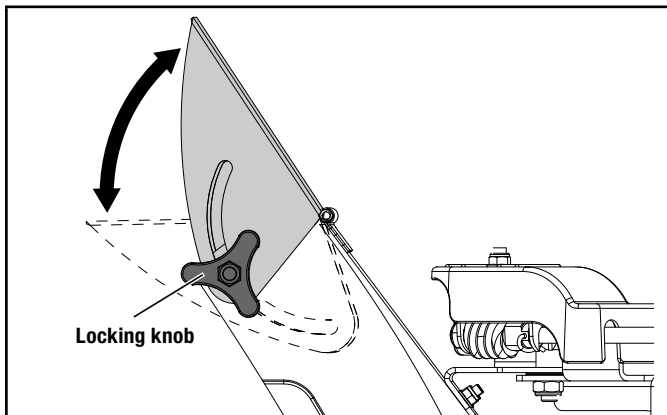

Figure 20
1. Loosen the locking knob to adjust the snow discharge deflector to a suitable height (Fig. 20).